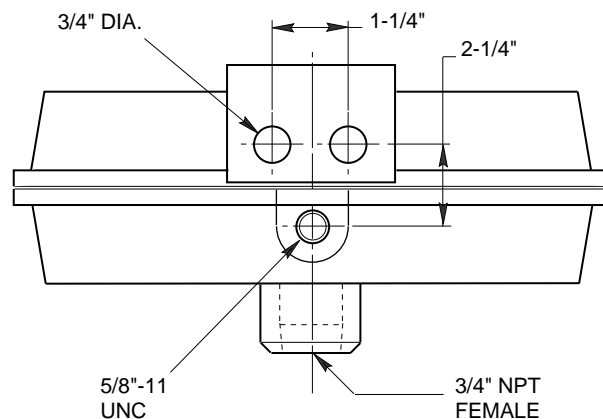

FIGURE 7 – Primer Mounting Dimensions
- A. Mount directly on pump case using standard pipe fittings. A bracket (not furnished) may be needed to support the primer and prevent damage to piping when operating primer. Refer to Figure 7 on page 4 for primer mounting dimensions.
See figure 7 on page 4 for primer mounting dimensions.